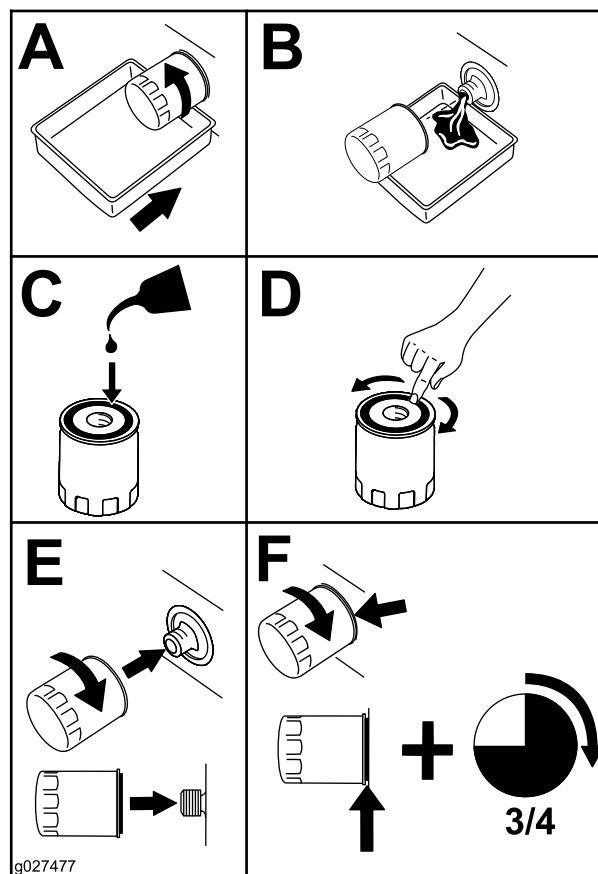

Figure 50
2. Change the engine oil filter (Figure 50).